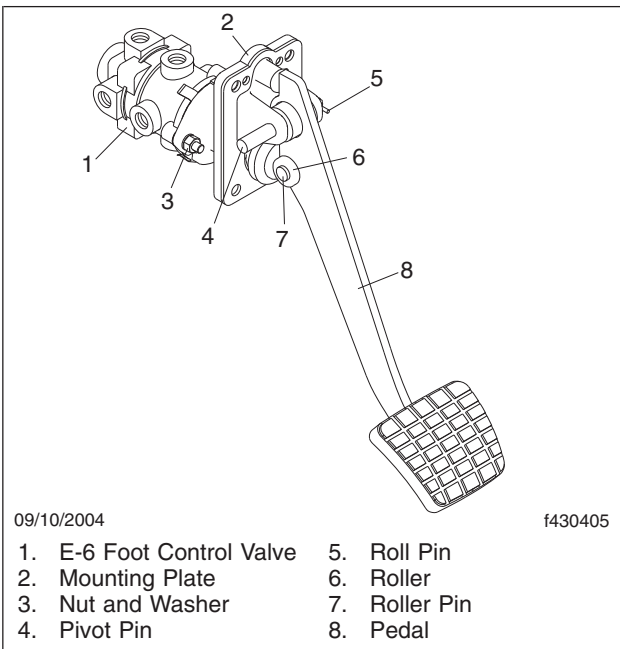

Fig. 8, Brake Pedal and Valve Assembly
2. Remove the roll pin from the brake pedal pivot pin. See **Fig. 8**.